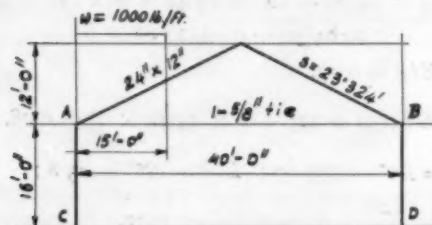

Fig. 24.
As a numerical example, consider a pitched frame (Fig. 24) with uniformly distributed load on part of the beam, for which  $I = 0.666 \text{ ft.}^4$ ,  $A_s = 0.307 \text{ sq. in.}$  ( $0.00216 \text{ sq. ft.}$ ), and  $n = 15$ . The load functions, calculated from equations (24) to (26) are  $EI\theta_a = 1154.81$ ;  $EI\theta_b = 813.15$ ;  $EI\Delta_0 = 14,267.73$ , and (39) become